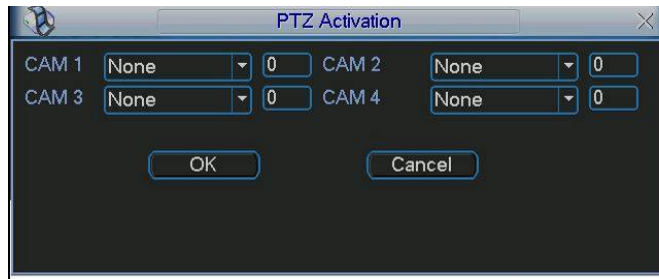

Figure 4-25
- PTZ activation: Here you can set PTZ movement when alarm occurs. Such as go to preset, tour& pattern when there is an alarm. Click “select” button, you can see an interface is shown as in Figure 4-25.